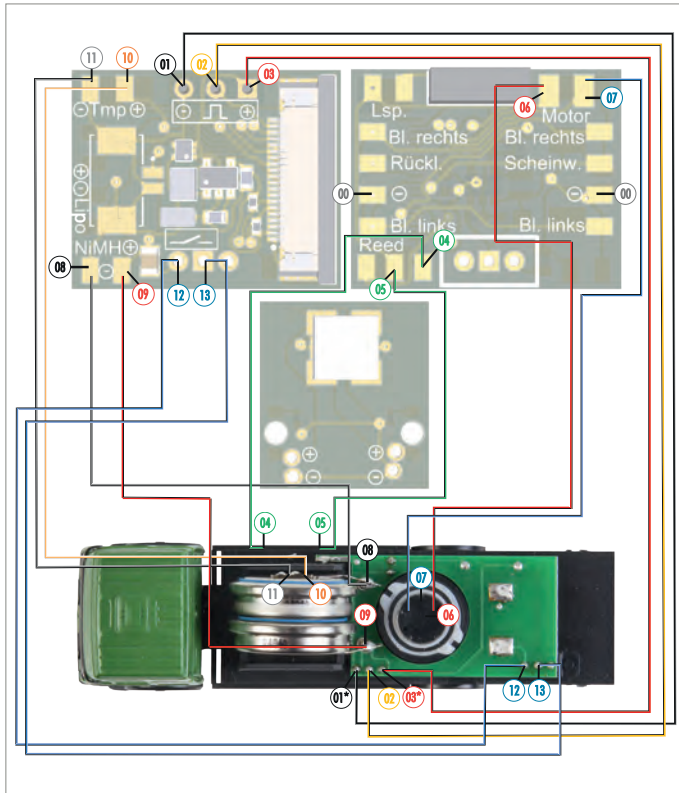

Abb. 40: Wiring diagram, truck model with universal circuit board, batteries soldered.
***NOTE:** Locate the "+" (plus) terminal of the charging port that you previously identified and marked, and connect it to terminal "03" on the conversion board. In the wiring diagram Abb. 40 are "01" and "03" For vehicles, these are merely examples of possible configurations. See also Chapter "Convert a vehicle".